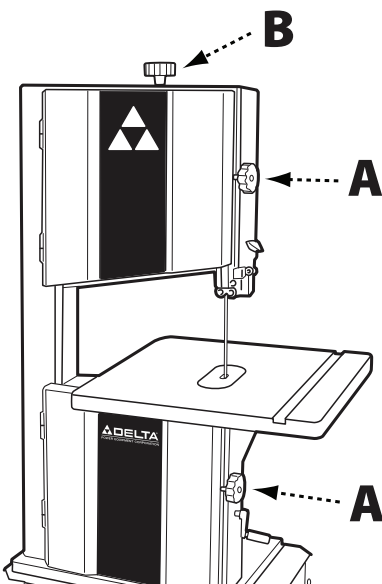

FIGURE 6
- Open the upper and lower cabinets of the saw by turning the cabinet lock knobs (A) clockwise. See Figure 6.
- Locate the blade tensioning knob (B) at the top of the machine and turn it counterclockwise several rotations to lower the upper flywheel.
- If the blade deflects more than 1/4", increase the tension on the blade by tightening the blade tensioning knob at the top of the machine (refer to B in Figure 6, page 9).